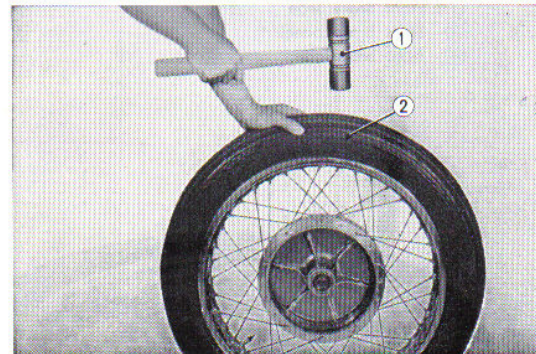

Fig. 4.81 Tapping around the tire
- (a) After the tire is mounted, inflate with approximately 1/3 the designated pressure and lightly tap around the tire with a wooden hammer to eliminate any pinching of the tube. (Fig. 4.81)